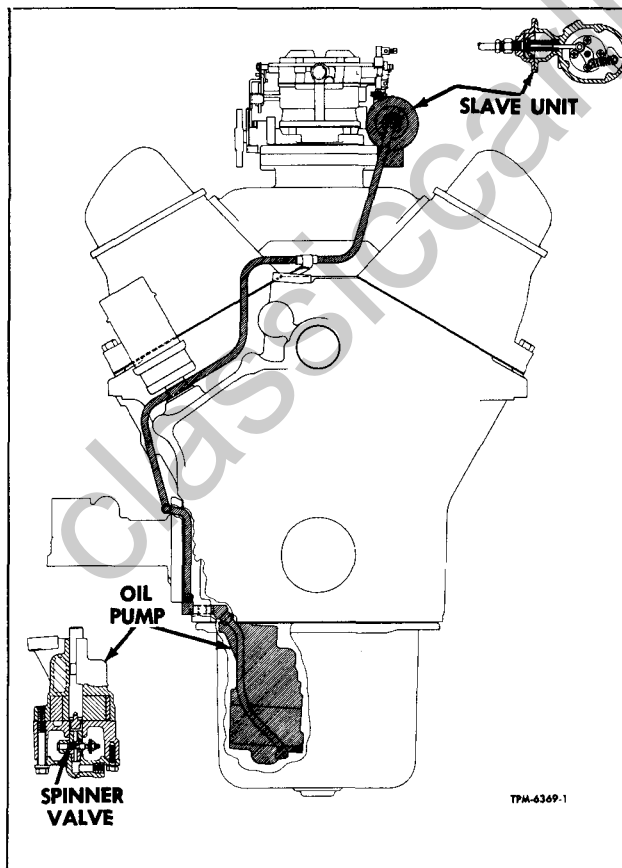

Figure 5—Hydraulic Governor System
The hydraulic type governor system consists of shaded items in figure 5. The hydraulic type governor is used as standard equipment on 401M, 478M engines.
If engine speed falls below governed speed, the spring at spinner valve (fig. 5) closes valve and cuts off hydraulic pressure to governor line. With valve closed, line pressure is relieved through slot in side of spinner valve. Bleed hole in valve housing provides correct pressure regulation at diaphragm in slave units. Springs (3 and 4) force diaphragm back to outer position and tension spring (3) returns throttle plates to open position.